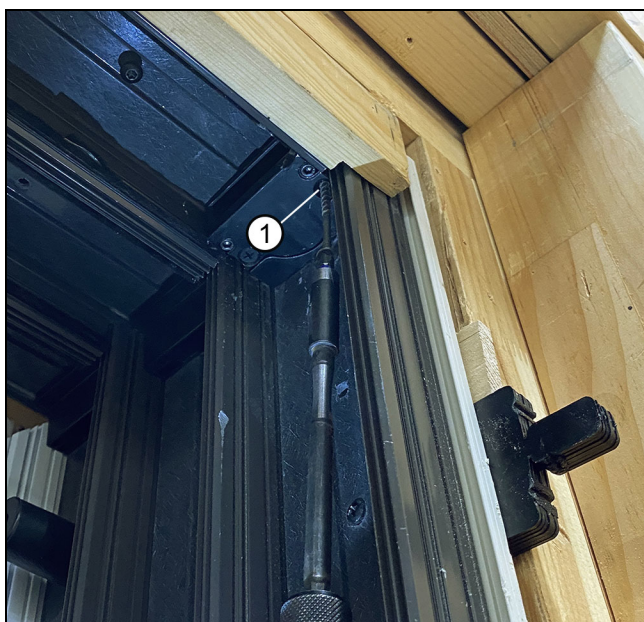

Figure 6
3. Fasten the pulley corner key into the head jamb rough opening with two #8 x 3" screws. provided. See Figure 6.